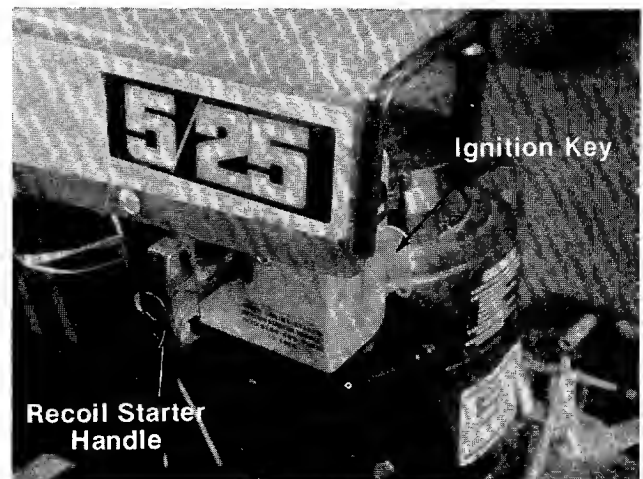

FIGURE 12.
- B. The Recoil Starter Handle is located on the left hand side of the hood. To operate the recoil starter handle, twist it until it is in the horizontal position and pull to start the engine. After the engine starts, return the Recoil Starter Handle to the mounting bracket and turn it to the vertical position as shown in figure 12.
- C. The Ignition Key must be turned to the right to the "ON" position before the Recoil Starter Handle is pulled to start the engine. Turn the Ignition Key to the left to the "OFF" position to stop the engine. See figures 12 and 13.
8. Turn the ignition key to "ON" position. See figure 12.
9. Twist the recoil starter handle until it is free and pull it with a quick steady motion. After the engine starts, return the recoil starter handle and twist it until it locks. See figure 12.